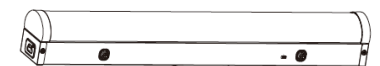

Fig. 36
6. Installation complete (Fig. 36).